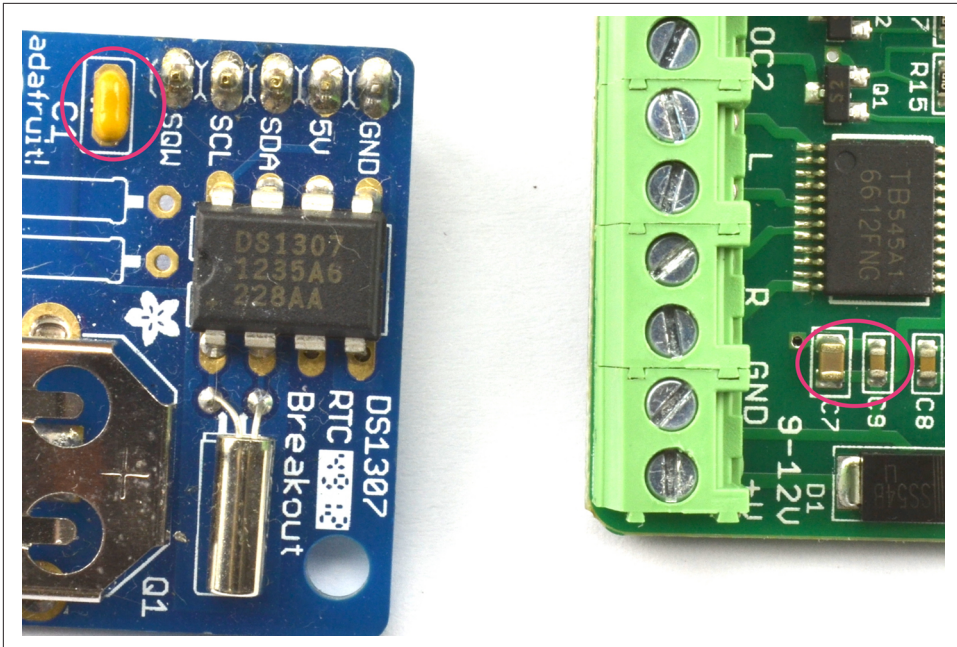

Figure 15-1. Decoupling Capacitors
**Figure 15-1** shows a circuit board containing a digital IC with a 100nF multilayer ceramic (MLC) capacitor for both a through-hole and SMD.
The circuit board on the right of Figure 15-1 actually has two capacitors in parallel as the decoupling capacitor. The smaller one is 100nF and the larger one 10 $\mu$ F. You may think that the effect of the 100nF would be lost, but its lower ESR (see Recipe 3.2) allows it to respond faster to pulses of power consumption from the chip. So, the 10 $\mu$ F capacitor is in turn providing a larger local energy store for the smaller capacitor and IC to draw on, but one that has a higher ESR and therefore cannot respond as quickly. Such an arrangement of ever-decreasing capacitor values as you approach the power rails of the IC is particularly common where larger currents are being switched such as in motor controllers and audio power amplifiers.